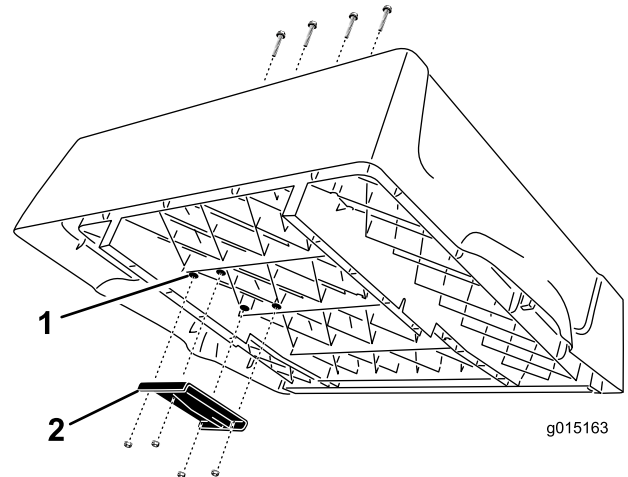

Figure 3
1. Locate the 4 bosses on the underside of the box on the right side (Figure 3). Using a drill with a 3/8 inch bit, carefully drill up through the bosses to make four holes through the floor of the bed.
2. Mount the upper lift bracket to the underside of the box with 4 pan-head, Phillips screws (3/8 x 2-1/2 inches) and flange locknuts (Whiz lock) (3/8 inch). Position the bracket as shown in Figure 3.